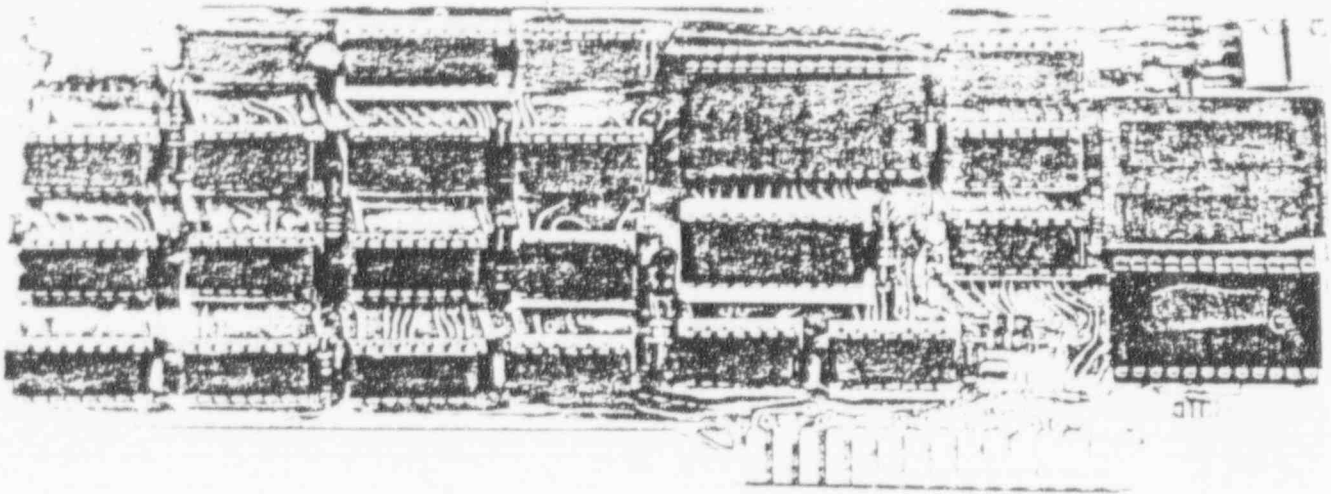

FIGURE 1-7. MODEL 911-RH COMPTTM RH COMPUTER OPTION
1.2.5 Model 911-RH COMPT[™] RH Computer Option (Figure 1-7)